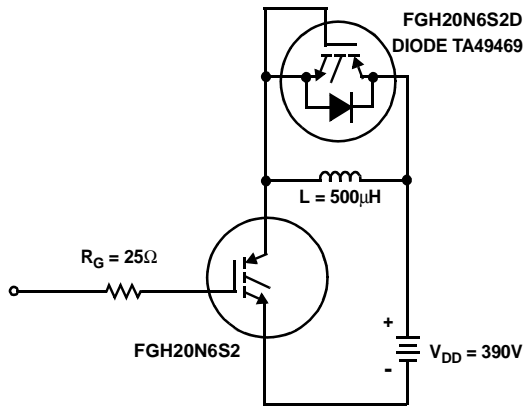

Figure 20. Inductive Switching Test Circuit
1. Values for two Turn-On loss conditions are shown for the convenience of the circuit designer.  $E_{ON1}$  is the turn-on loss of the IGBT only.  $E_{ON2}$  is the turn-on loss when a typical diode is used in the test circuit and the diode is at the same  $T_J$  as the IGBT. The diode type is specified in figure 20.